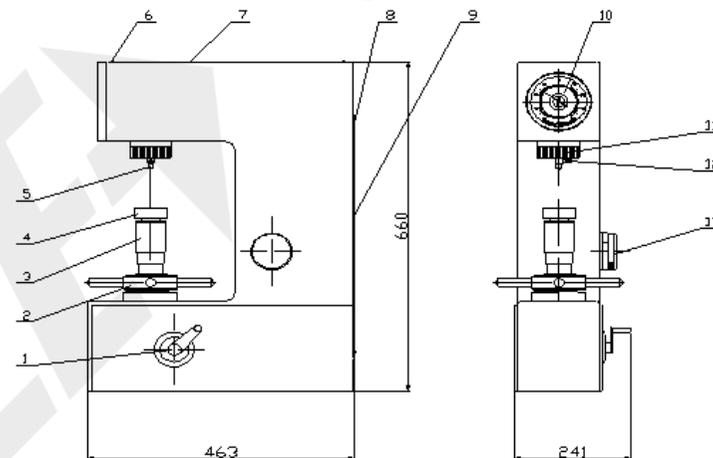
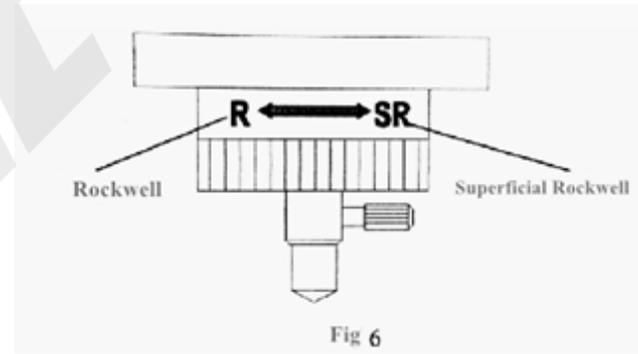
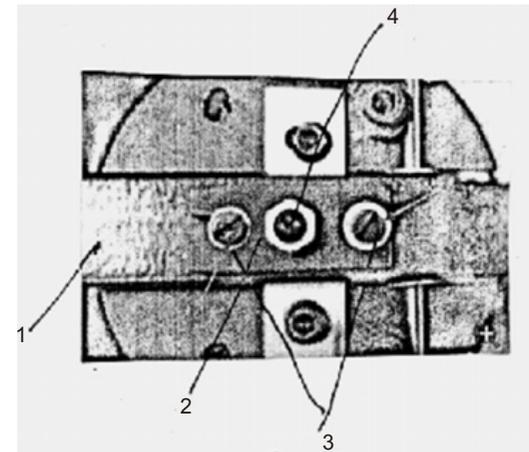

Fig 2
Fig 6
Fig 7
1 Installation of hardness tester (Fig 2)
② After the hardness tester is placed properly, first screw out four upper cover fixing screws (6), and then take out the upper cover (7) (see Fig 2). Remove the rubber band on the small lever (1) in the body (Fig 7), and timely cover the upper cover to prevent dust from entering. Turn the rotating wheel (2) anticlockwise, take out the cushion block on the lifting lead screw, pull out the top protective cover (3) from the lifting lead screw, remove the other two protective covers, wipe the antirust oil on the lifting lead screw, and apply a small amount of thin oil for lubrication. Then install the protective cover and put it on the test bench (4). Finally, screw out the two back cover fixing screws (8), open the back cover (9), untie the white yarn fixing the moving parts, align the 147n on the load changing hand wheel (13) with the white spot beside it (Fig 2), place the five weights on the weight fork from top to bottom in the order of 1, 2, 3, 4 and 5, and observe whether they are installed correctly (Fig 4).
② Switch of test force
The scale (Table 1) is selected according to the hardness test requirements of the specimen, and the total test force and test mode (Rockwell s or surface Rockwell SR) are determined according to the scale. As shown in Figure 2, turn the load changing hand wheel (13) clockwise to change the main test force. Turning the mode change roller (11) can change the test mode, that is, change the initial test force of Rockwell or surface Rockwell. The surface Rockwell test mode is rotated to the right SR direction, and the Rockwell test mode is rotated to the left r direction. See Figure 6.
Loosen the two back cover fixing screws (8) on the back cover (9) (Fig 2), remove the back cover, pull the loading and unloading test force handle (1) forward (Fig 2), press (Fig 5) anticlockwise to loosen the needle lock nut (2), and then rotate the needle nut (1) anticlockwise to remove the oil seal (8) on the cylinder cover (6), and slowly inject No. 20 oil into the cylinder cover hole. The amount of oil injected can be adjusted When the loading and unloading test force handle is moved, there is no suction sound. Observe that the amount of oil added does not overflow the upper plane of the cylinder body (7) (the cylinder body has been filled with oil before delivery).
② Adjust the speed of loading main test force (Fig 2)
① Select scale according to the technical requirements of the test piece (table1).
② Install the indenter in the measuring rod hole, close to the supporting surface, tighten the indenter fastening screw (12), and place the test piece on the test bench. Turn the mode conversion roller (11) to select the appropriate initial force test mode (Fig 2).
③ Turn the rotary wheel clockwise, the lifting screw rises, and the rising speed should be slow and stable when the indenter contacts the test piece. The small pointer on the dial moves from the blue point to the red point. At this time, the large pointer turns three turns to the range of zero \pm 5HR (5 cells). At this time, the initial test force has been applied.
④ Turn the dial (10) to zero (Fig 2).
⑤ After the initial test force is applied, slowly pull the loading and unloading test force handle forward within 3 seconds to ensure that the main test force is applied within 2-5 seconds. The total test force is kept for 4 s \pm 2 s, and then the loading and unloading test force handle is pushed back smoothly in 2-3 s to remove the main test force and maintain the initial test force. After a short period of stability, read the hardness indication from the corresponding scale.
3 Hardness tester calibration (Fig 7)